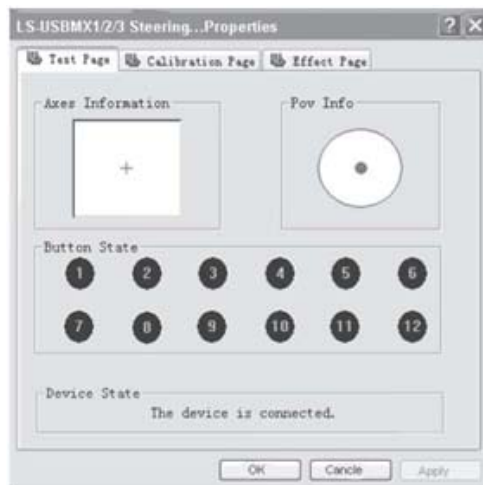

Fig. 8
- *Axes Test.* Pass to the “Test Page” bookmark (see Fig. 8), rotate the wheel from left to right and make sure that the X-axis (“+” cross-cursor) in the “Axes Information” window moves from left to right correctly. If the cross cursor is not at the center of the window, please enter “Calibration Page” to calibrate it.
- *Button Test.* Press the wheel buttons to see if button 1 to 12 in the “Test Page” turns red for each button action (see Fig. 8).
- *D-PAD Test.* Press each direction of the D-PAD (UP, DOWN, RIGHT, LEFT and 45 degree for each direction) to see if the cursor in «Povinfo» is moving correctly (see Fig. 8).
• Program buttons 1, 2, 3, 4, 5, 6, 7 and 8, which by default assigned functions to gear stick ⑨, left wing and right wing ④, gas pedal ⑳, brake pedal ㉑, buttons 11 and 12. Which, you define by testing. If for some reason they need to be reprogrammed, to set other functions, do the following guidelines:
- **Program Setup (no programming function under NEGCON Mode).** Enter “Test Page” (see Fig. 8), press button 9 and button 10 (14) at the same time. Hold for 3 seconds until program LED turns green. Press the programmable button. Program LED starts blinking. Press program source button. Program LED turns off. Program is set.